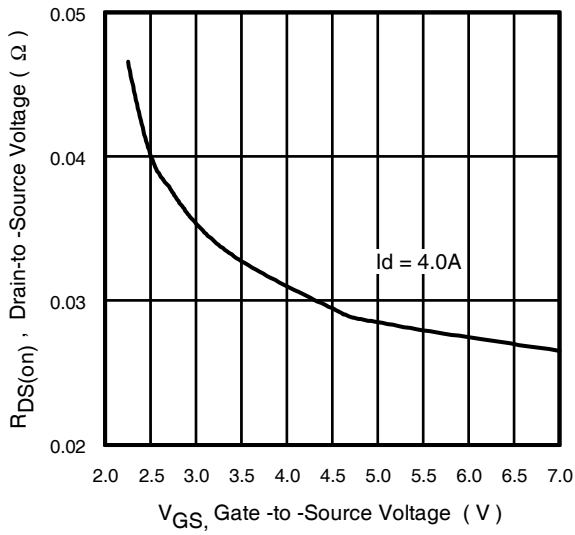

Fig 11. On-Resistance Vs. Gate Voltage
① Repetitive rating; pulse width limited by max. junction temperature. ( See fig. 11 )
② Pulse width  $\leq 300\mu s$ ; duty cycle  $\leq 2\%$ .